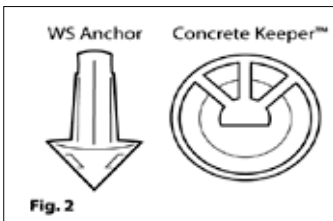

Fig. 2
5. To ensure proper integration between **TufTile** WS anchors, *Concrete Keepers™, and the concrete it is important to tap the entire **TufTile** surface with a rubber mallet. **(Figure 2)** *Concrete Keepers™ are a feature of **TufTile** polymer products only.